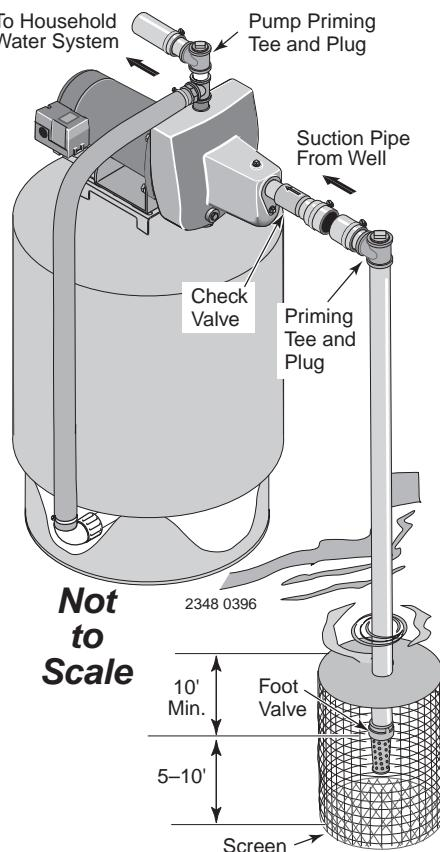

Figure 3: Surface Water Installation
INSTALLATION FOR SURFACE WATER (FIGURE 3)
2. Assemble a foot valve and suction pipe (see Figure 3). Make sure that the foot valve works freely. Use teflon tape or a teflon-based pipe joint compound on threaded pipe joints. Protect the foot valve assembly from fish, trash, etc, by installing a screen around it (see Figure 3).
4. Install a priming tee, priming plug, and suction pipe to the pump (see Figure 3). Support the pipe so that there are no dips or sags in the pipe, so it doesn't strain the pump body, and so that it slopes slightly upward from the well to the pump (high spots can cause air pockets which can air lock the pump). Seal the suction pipe joints with teflon tape or a teflon based pipe joint compound. Joints must be air- and water-tight. *If the suction pipe can suck air, the pump cannot pull water from the well.*